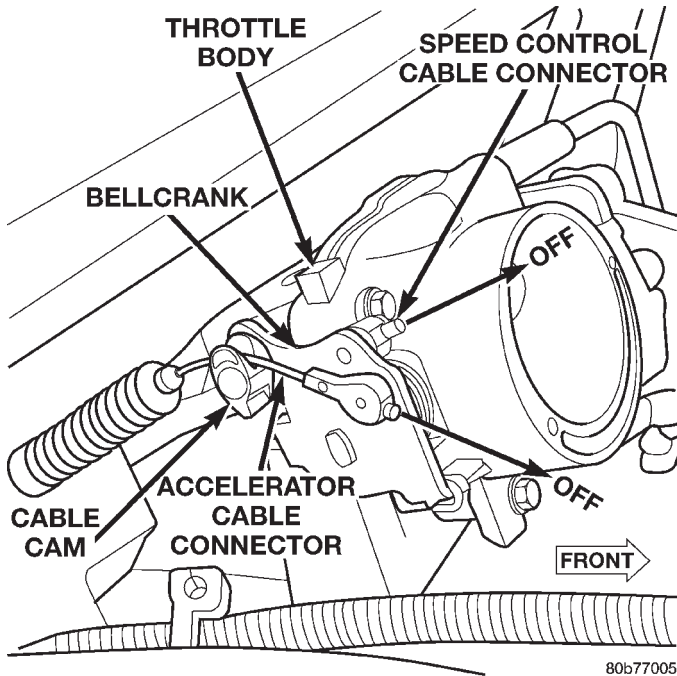

Fig. 5 Cable Connectors at Bell Crank—4.7L V-8 Engine
- (3) Using finger pressure only, disconnect accelerator cable connector at throttle body bellcrank pin by pushing connector off bellcrank pin towards front of vehicle (Fig. 5). **DO NOT try to pull connector off perpendicular to the bellcrank pin. Connector will be broken.**
- (4) Lift accelerator cable from top of cable cam (Fig. 5).
- (6) Using finger pressure only, disconnect speed control cable connector at throttle body bellcrank pin by pushing connector off bellcrank pin towards front of vehicle (Fig. 5). **DO NOT try to pull connector off perpendicular to the bellcrank pin. Connector will be broken.**
- (5) Route accelerator cable over top of cable cam (Fig. 5).
- (6) Install accelerator cable connector onto throttle body bellcrank pin (snaps on).
- (7) Install air box housing to throttle body.
- (8) Connect negative battery cable at battery.
- (9) Before starting engine, operate accelerator pedal to check for any binding.